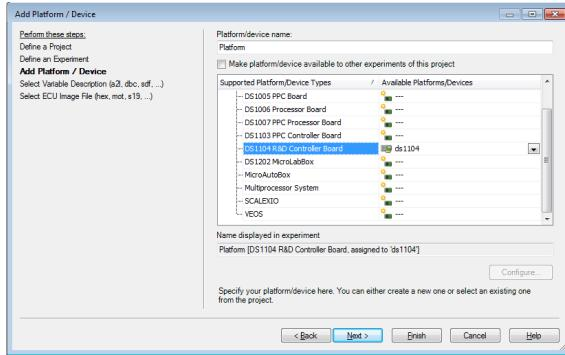

Figure 46: Add platform / Device
4. After pressing 'Next', the user must select the controller board which is being used which, in this case, is the DS1104, as seen in figure 46.